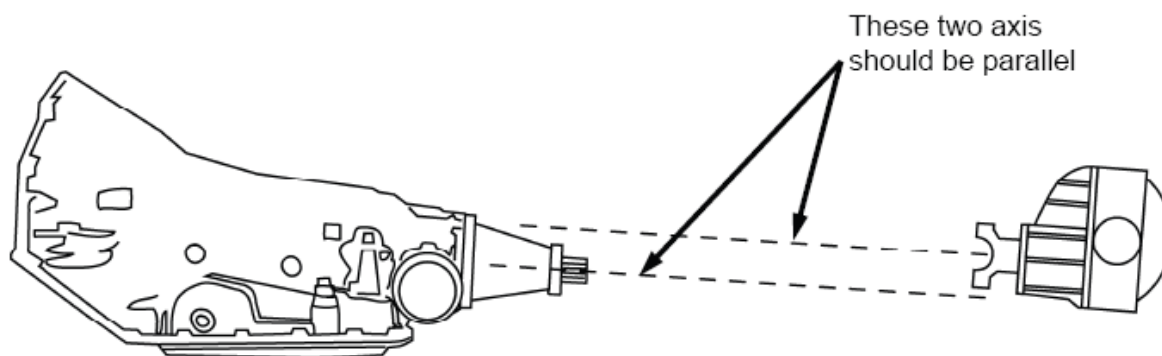

Figure 2- Axle Housing Install
5. Position the axle housing into the frame. Rotate the housing to set the pinion angle to match the angle of the engine, see **Figure 2**. The engine angle must be set at this point. Adjust the bars to equal length. Assemble the bars, with the adjusters to the front, and axle brackets onto the housing using the 5/8-18 bolts and lock nuts supplied. The center-to-center dimension of the brackets is 36-1/2". Make sure that both brackets are the same distance from the ends of the axle housing. The axle brackets should be tack welded to the housing, and the assembly double checked for square and correct pinion angle.